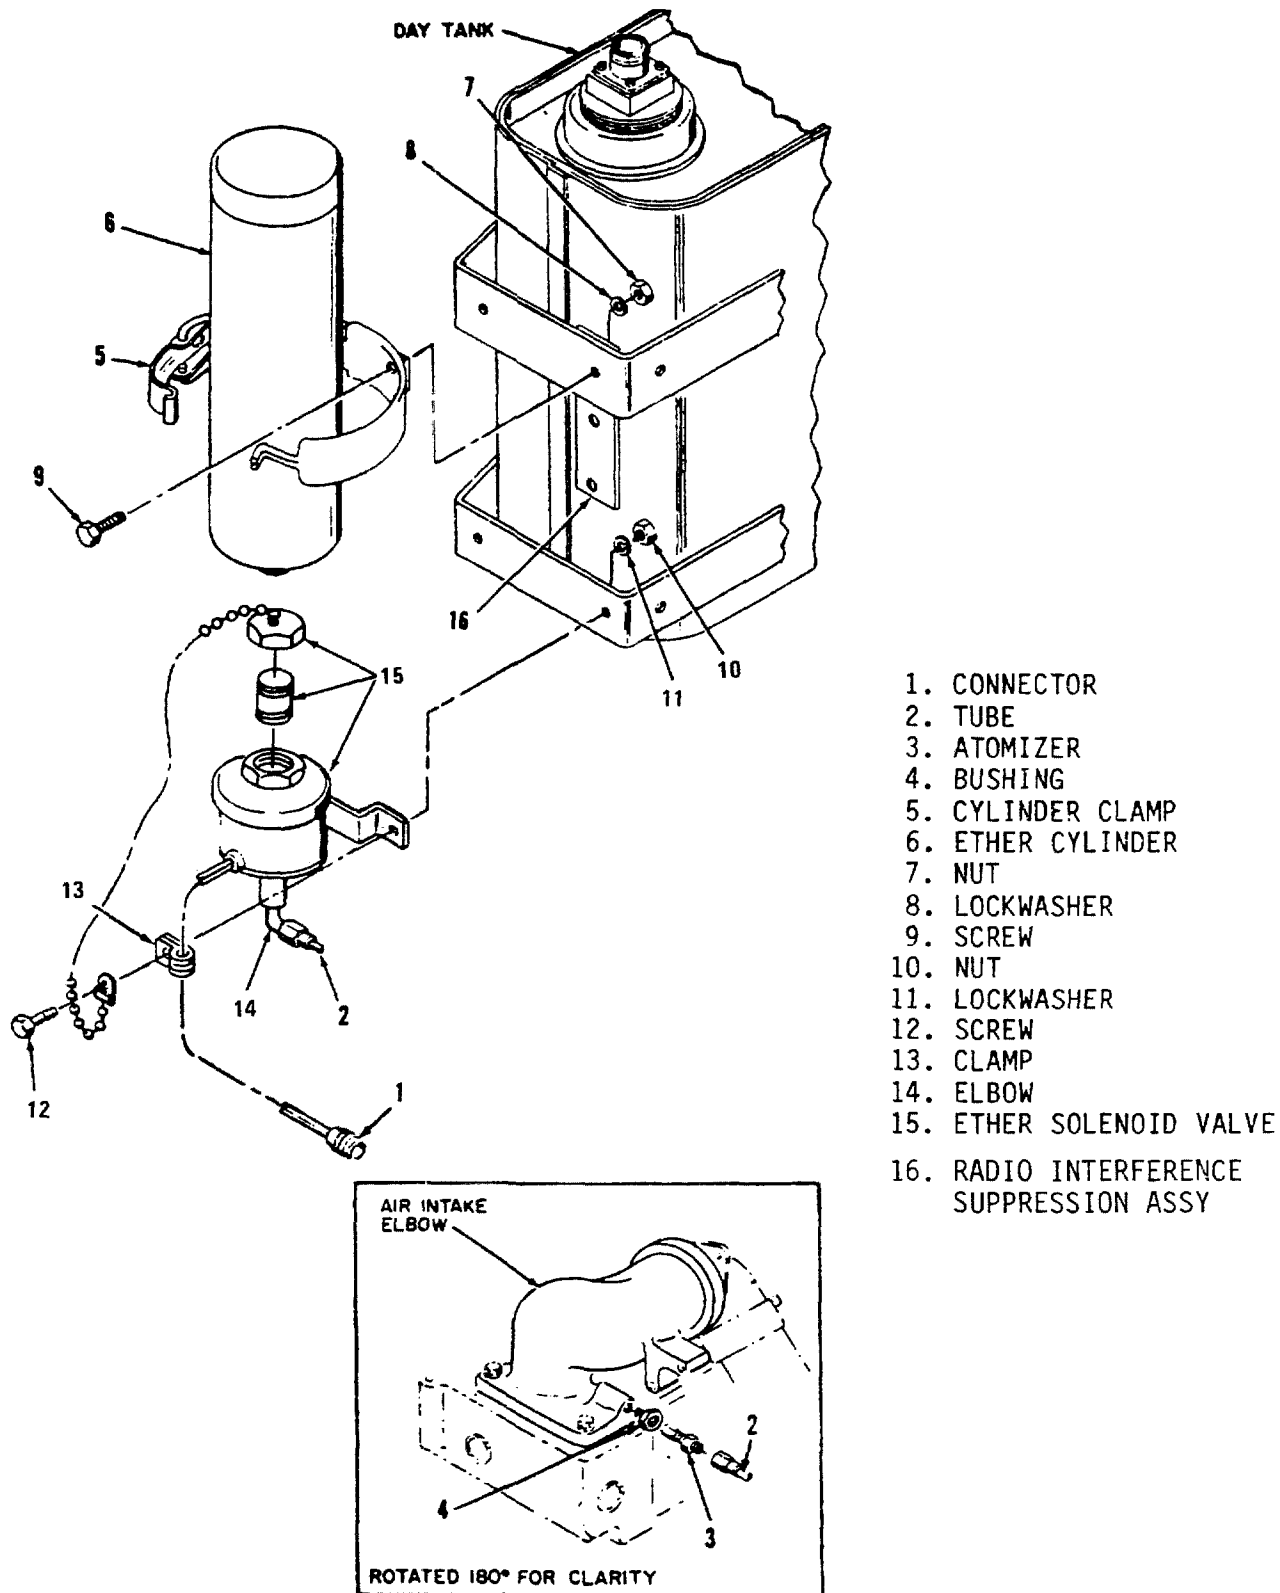

Figure 4-47. Ether System, Exploded View
4-91. ETHER SYSTEM. The ether system aids engine starting during cold weather operation. The ether system consists of an ether cylinder, primer (solenoid valve), atomizer, tube, wiring, and engine primer switch. When the engine primer switch is positioned to ON, with the START-STOP-RUN switch in the start position, electrical power energizes the ether primer which momentarily off-seats the ether cylinder check valve. Off-seating of the check valve permits a metered amount of ether to flow through the atomizer. Ether passing through the atomizer is atomized and mixed with engine inlet air which increases the combustibility of the air/fuel mixture in the engine cylinders. The following paragraphs provide service and replacement procedures for the ether system (refer to figure 4-47).
(1) Open cylinder clamp (5, figure 4-47).
(2) Unscrew ether cylinder (6).
(3) Check cylinder condition by weighing cylinder on a scale. Full cylinder weighs 37 ounces (1 kg); an empty cylinder weighs 17 ounces (0.48 kg).
(4) Prior to installation of new cylinder, lubricate cylinder threads with one drop of OE 30 oil. Screw cylinder (6) into ether solenoid assembly until hand tight.
(1) Disconnect electrical connector (1, figure 4-47) and tube (2).